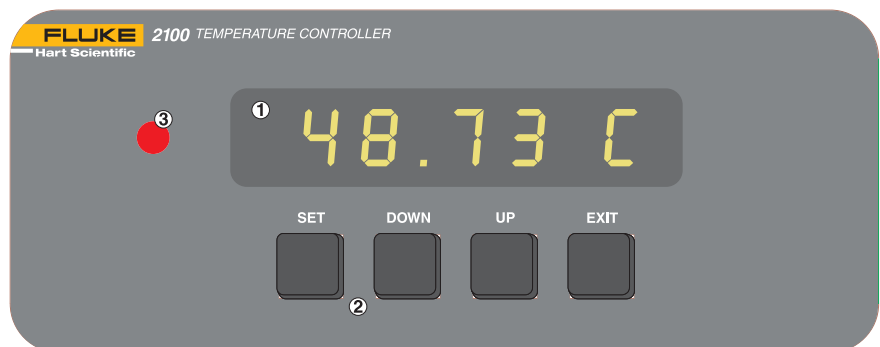

Figure 1 Front panel features
The following controls and indicators are present: (1) the digital display, (2) the control buttons, and (3) the control indicator light. (see Figure 1)
(1) The digital display is an important part of the temperature controller because it not only displays set and actual temperatures but also various controller functions, settings, and constants. The display shows temperatures in values according to the selected scale °C or °F.
(2) The control buttons (SET, DOWN, UP, and EXIT) are used to set the temperature set-point, access and set other operating parameters, and access and set calibration parameters.